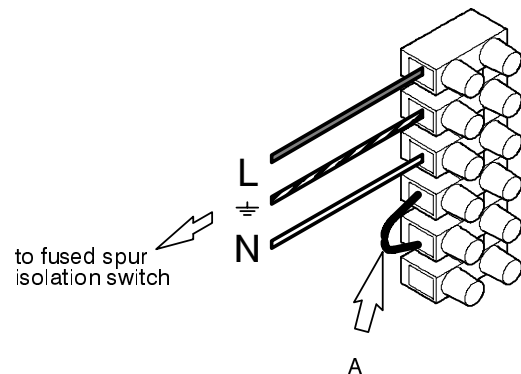

fig. 3.10
- 3 Connect the electrical supply flexible cord coming from the fused spur isolation switch to the terminal block for the boiler (fig. 3.10) keeping the same connections for the live (brown wire) and the neutral (blue wire). External 3 A fuse or fused plug with same current rating is recommended.
**When connecting any type of room thermostat, the jumper A in fig. 3.10 must be removed.**